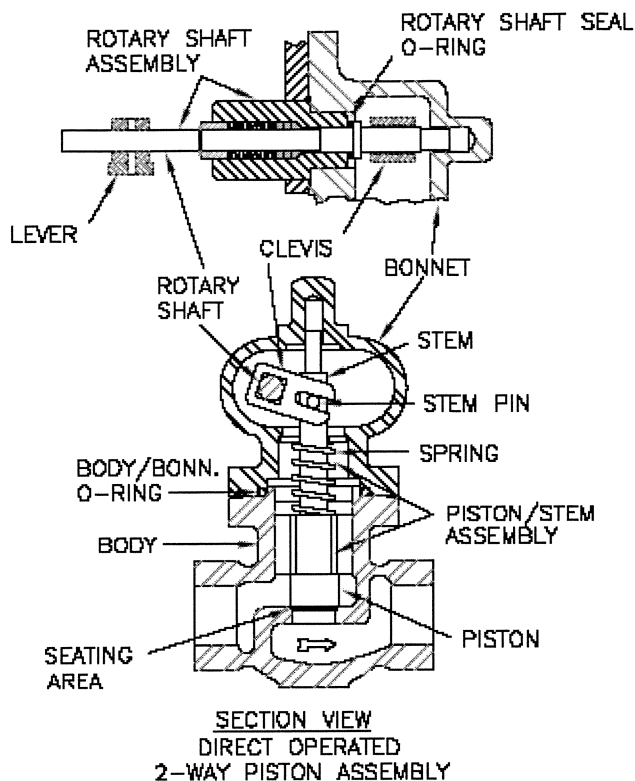

Figure 4 – Sectional Parts
2. Pilot Operated Piston & Stem - 600, 613, 800, 850, 1200, 1250 Series (See Fig. 4)